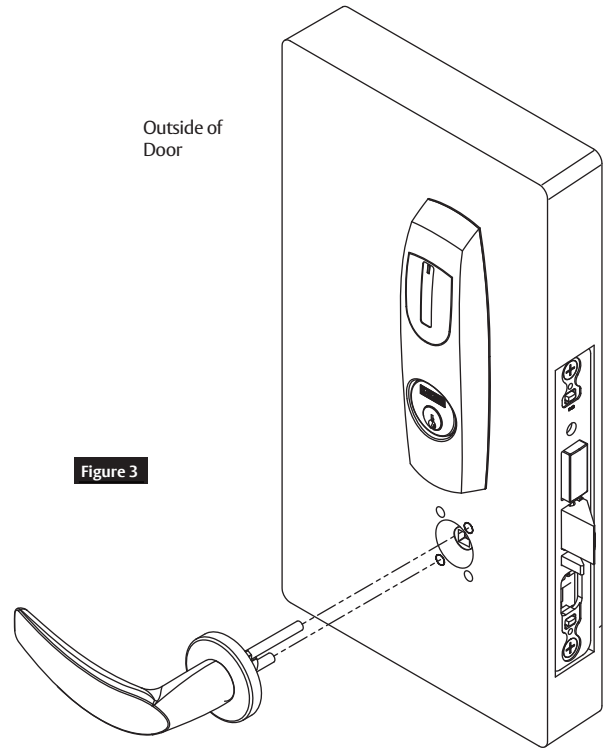

Figure 3
2. Confirm the lever spindle is properly engaged inside the lock body (Figure 3).